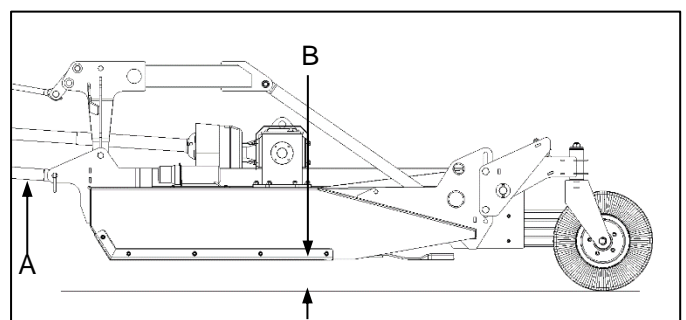

Fig. 6
- ✔ In the working position the front of the implement is supported on the tractor 3-point hitch. To level the implement, set the lower link arm positions (Fig. 6-A) so that the implement is parallel to the ground (Fig. 6-B).
- ✔ In die werksposisie word die voorkant van die implement op die trekker se 3-punt-koppelstuk gesteun. Om die implement gelyk te maak, stel die onderste skakelarmposisies (Fig. 6-A) so dat die implement parallel met die grond is (Fig. 6-B).